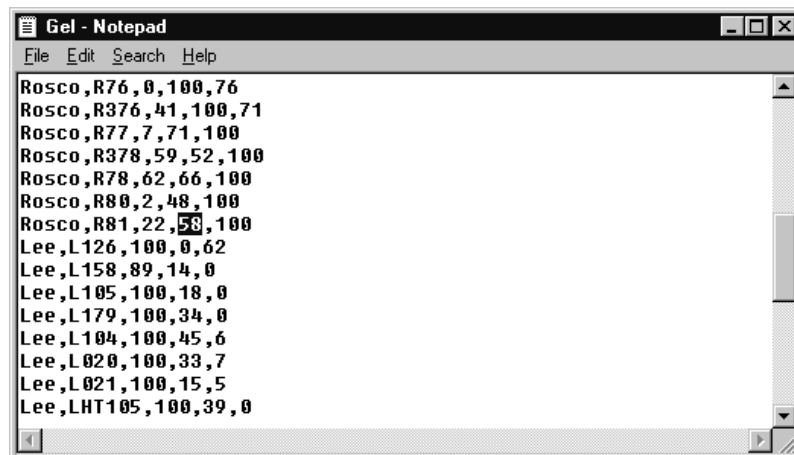

Figure 5.26. Off-Line Color Table Editing
2. Press the <GEL> key in the COLOR MIX group to bring up the **Gel Picker** dialogue box. Refer to Figure 5.26. Alternately, select the **Gel Picker...** item from the **Window** drop-down menu.
2. Open the gel text file (`gel.txt` or other custom text file) located in the current *Status Cue* or custom directory. The comma delimited file is in the following order: manufacturer, color name, red value, green value, blue value. Refer to Figure 5.26.